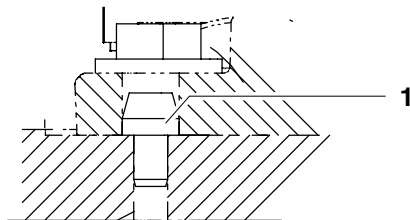

Fig. 43 Locating pins
- (1) Check that the locating pins (Fig. 43/1) are undamaged and fitted securely.